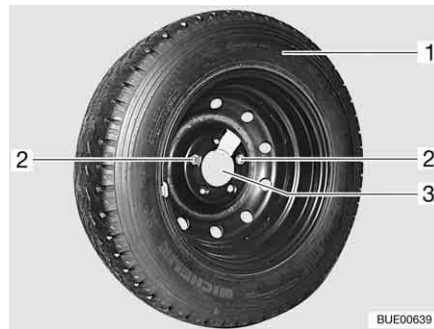

Fig. 276 Spare wheel support in the rear garage
- Loosen and remove both fixing screws (Fig. 276,2) with the on-board tool set.
- Remove the spare wheel (Fig. 276,1) from the support (Fig. 276,3).